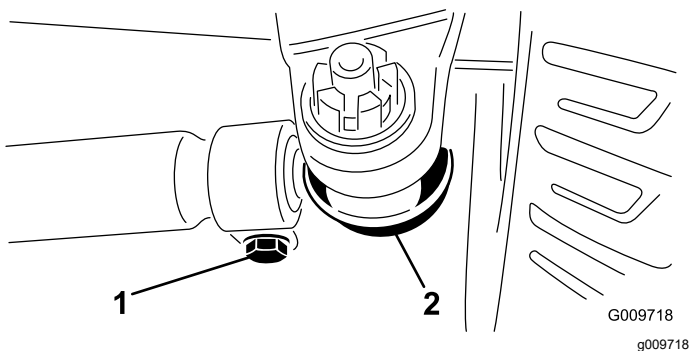

Figure 115
3. To adjust, remove the cotter pin and nut from either tie rod ball joint (Figure 115). Remove the tie-rod ball joint from the axle-case support.
4. Loosen the clamps at both ends of the tie rods (Figure 115).